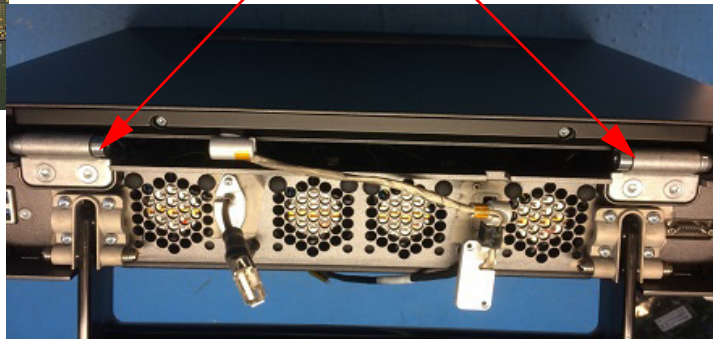

Figure 6.10 Clinical Display Removal
- 9 Disconnect the Clinical Display Cable from the Main PCBA per Figure 6.10 on page 53.
- 11 Use a T20 bit to remove the 2 screws in each hinge per Figure 6.10 on page 53.
- 4 Place the Clinical Display on top of Bottom Enclosure and line the hinges up with the screw holes per Figure 6.10 on page 53.
- 6 Connect the Clinical Display Cable to the Main PCBA, J3002 per Figure 6.10 on page 53.